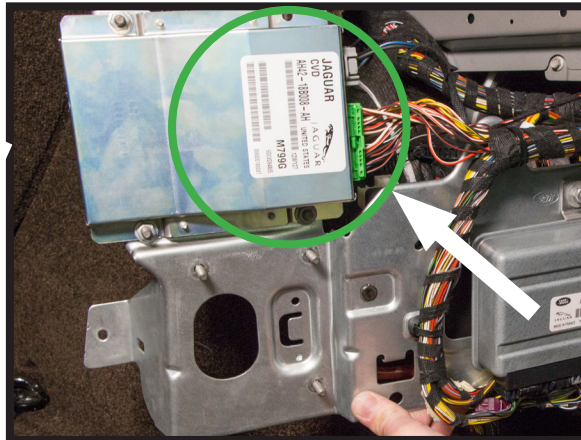

FIGURE 70
3. IF THE VEHICLE IS EQUIPPED WITH CVD, LOCATE AND DISCONNECT THE CVD/VDS MODULE. IT WILL REMAIN DISCONNECTED, AS THE ELECTRONIC SHOCKS WILL NO LONGER BE IN USE. (FIGURE 70)